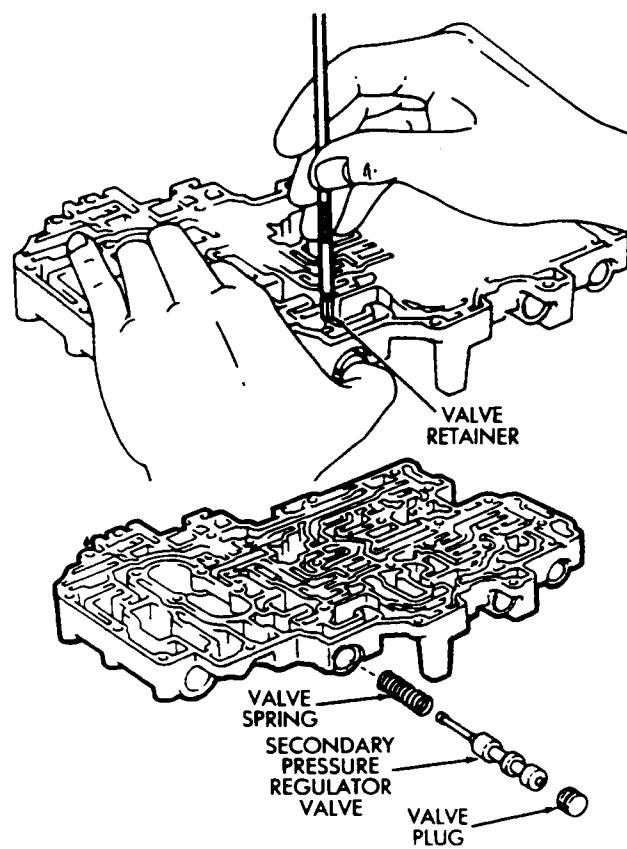

Fig. 10 Removing/Installing Secondary Pressure Regulator Valve
- (6) Install secondary regulator valve spring, valve and plug in valve bore. Press plug inward and install retainer (Fig. 10).